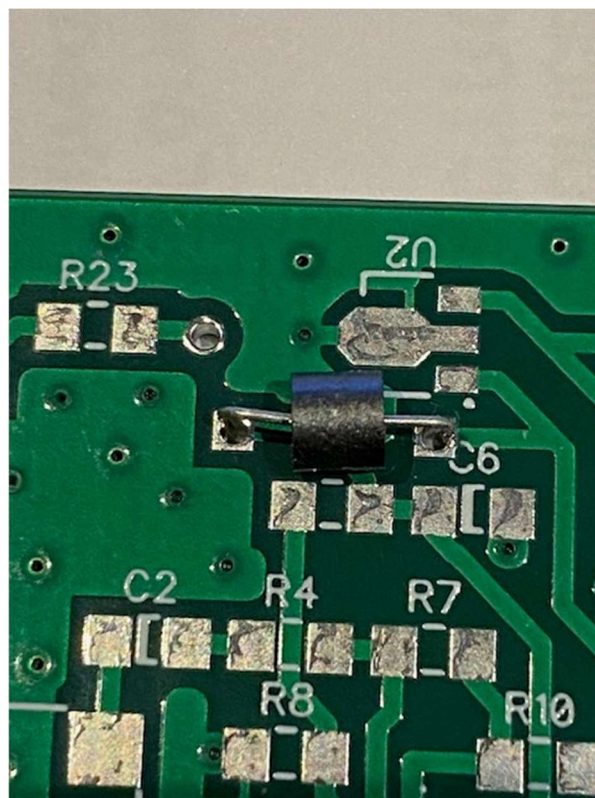

Figure 6. Placement Of L1 – FT43-101 Bead.
7. Install L1 on the board; L1 is formed from placing the FT43-101 bead onto a lead cut off from a ¼ or ½ watt leaded resistor. The spot is not marked so use the photo below for placement. See Figure 6 for the proper location.